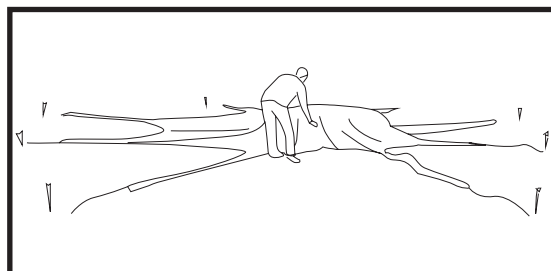

Fig. 7
13. Unfold the canopy inside the area defined by the anchors (Fig. 7).